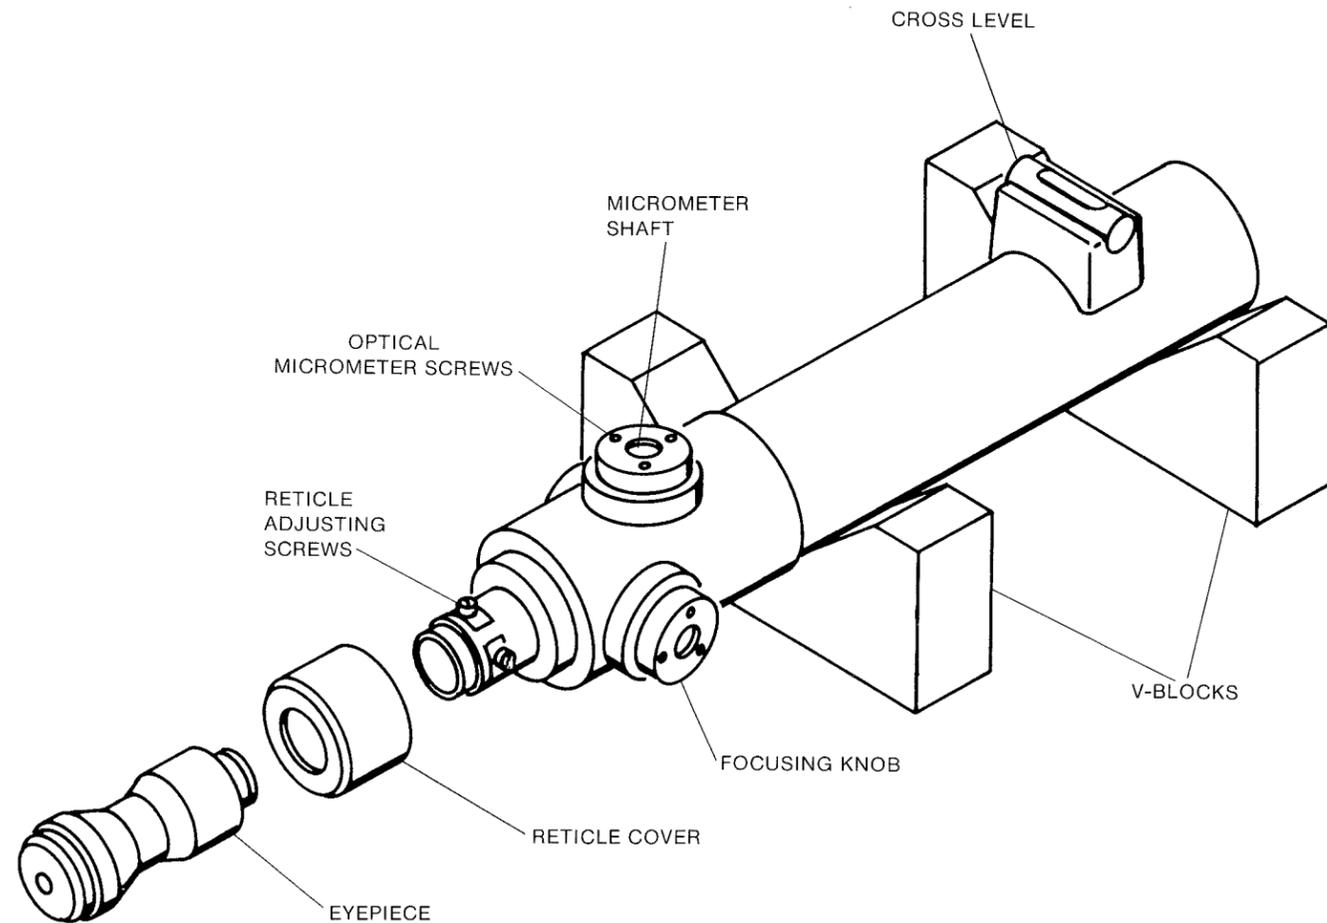

Figure 3-1. Alignment Telescope Prepared for Adjustment
b. Unscrew the eyepiece and reticle cover (Figure 3-1). Reinstall the eyepiece.
- (1) Adjust one of the micrometer knobs on the telescope to either extreme position.
- (2) Aim the telescope at a well defined target.
- (3) Rotate the same micrometer knob to its other extreme position. The cross line should remain on the target. If not, perform the following adjustments.
**b. Adjustment 1b.** (See Figure 3-1.)
- (1) Unscrew the eyepiece and reticle cover from the telescope. Reinstall the eyepiece.
- (2) Four reticle adjusting screws are now exposed. Loosen two adjacent adjusting screws. Tap the screws gently to make them slide around the telescope until the cross line remains on the target throughout the full micrometer movement.
- (3) Tighten the reticle adjusting screws that were loosened.
- (4) **Repeat Test 1b.**